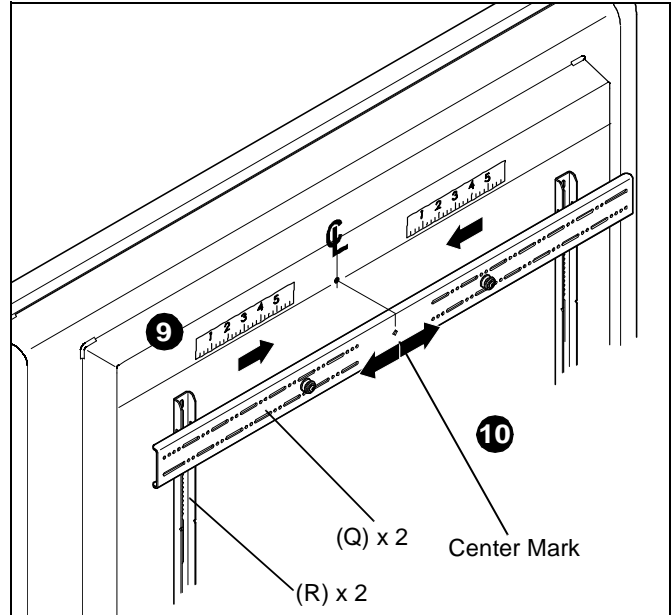
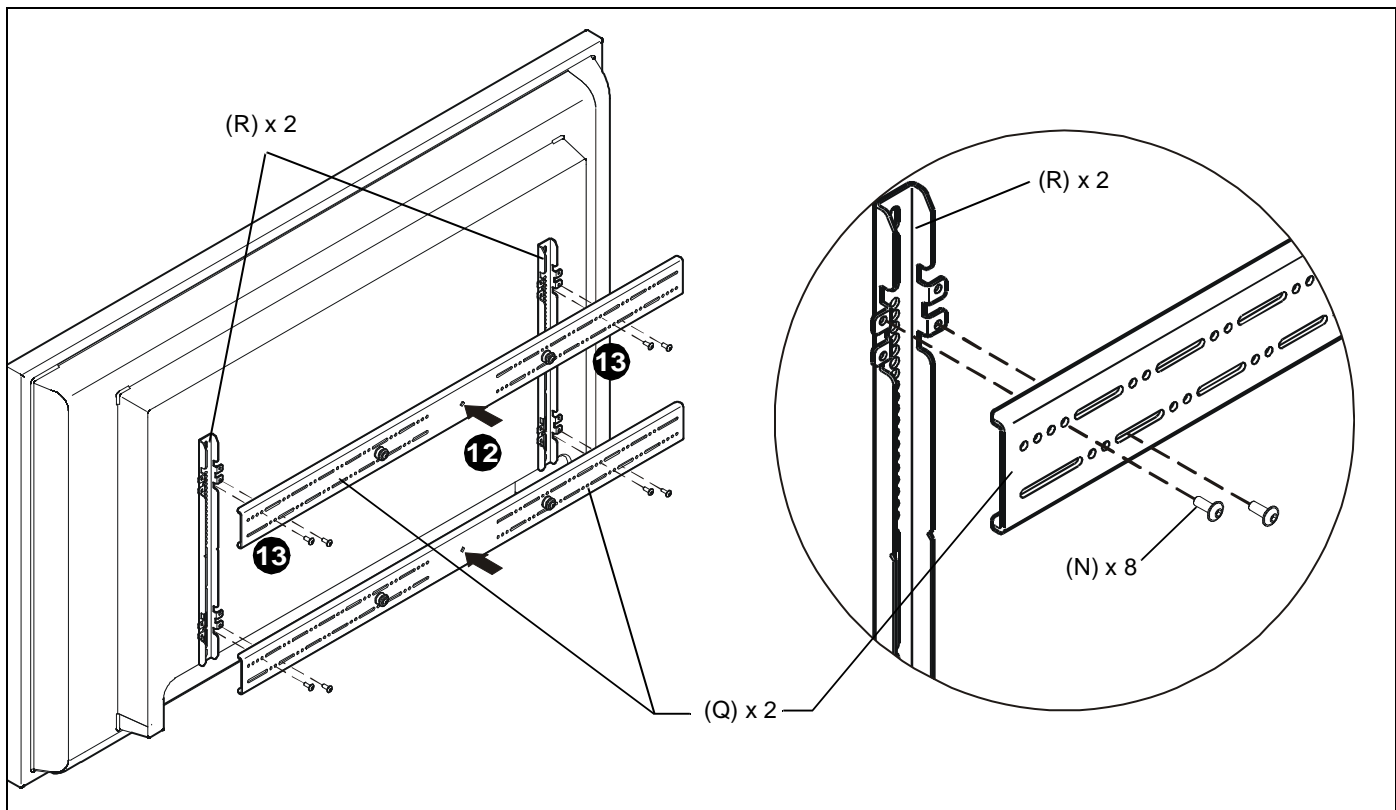

Figure 4
Figure 5
9. Determine and mark the horizontal center position between the Left and Right *TOP* mounting holes in display. (See Figure 4)
10. Determine and mark the horizontal center position between the Left and Right *BOTTOM* mounting holes in display. (See Figure 4)
11. Orient upper horizontal mounting bracket (Q) so that flanges are facing towards display and resting in recessed area of left and right vertical mounting brackets (R). (See Figure 4)
12. Adjust Upper horizontal mounting bracket (Q) position until center diamond in horizontal mounting bracket (R) aligns with mark made in Step 9, and mounting holes and slots in horizontal mounting bracket (Q) are aligned with threaded holes in mounting tabs of left and right vertical mounting brackets (R). (See Figure 4) and (See Figure 5)
13. Use 1/8" hex key (P) to secure upper horizontal mounting bracket (Q) to left and right vertical mounting brackets (R) using four button head flanged screws (N). (See Figure 5)
14. Repeat Steps 10 through 13 for lower horizontal mounting bracket (Q).
IMPORTANT ! : The orientation of, and mounting holes used, when installing the lower horizontal mounting bracket must be the same as the upper horizontal mounting bracket. Vertically align upper and lower brackets by aligning holes or end of slots. (See Figure 5)
IMPORTANT ! : Whenever possible install mounting screws diagonally as shown in detail in Figure 5 below.